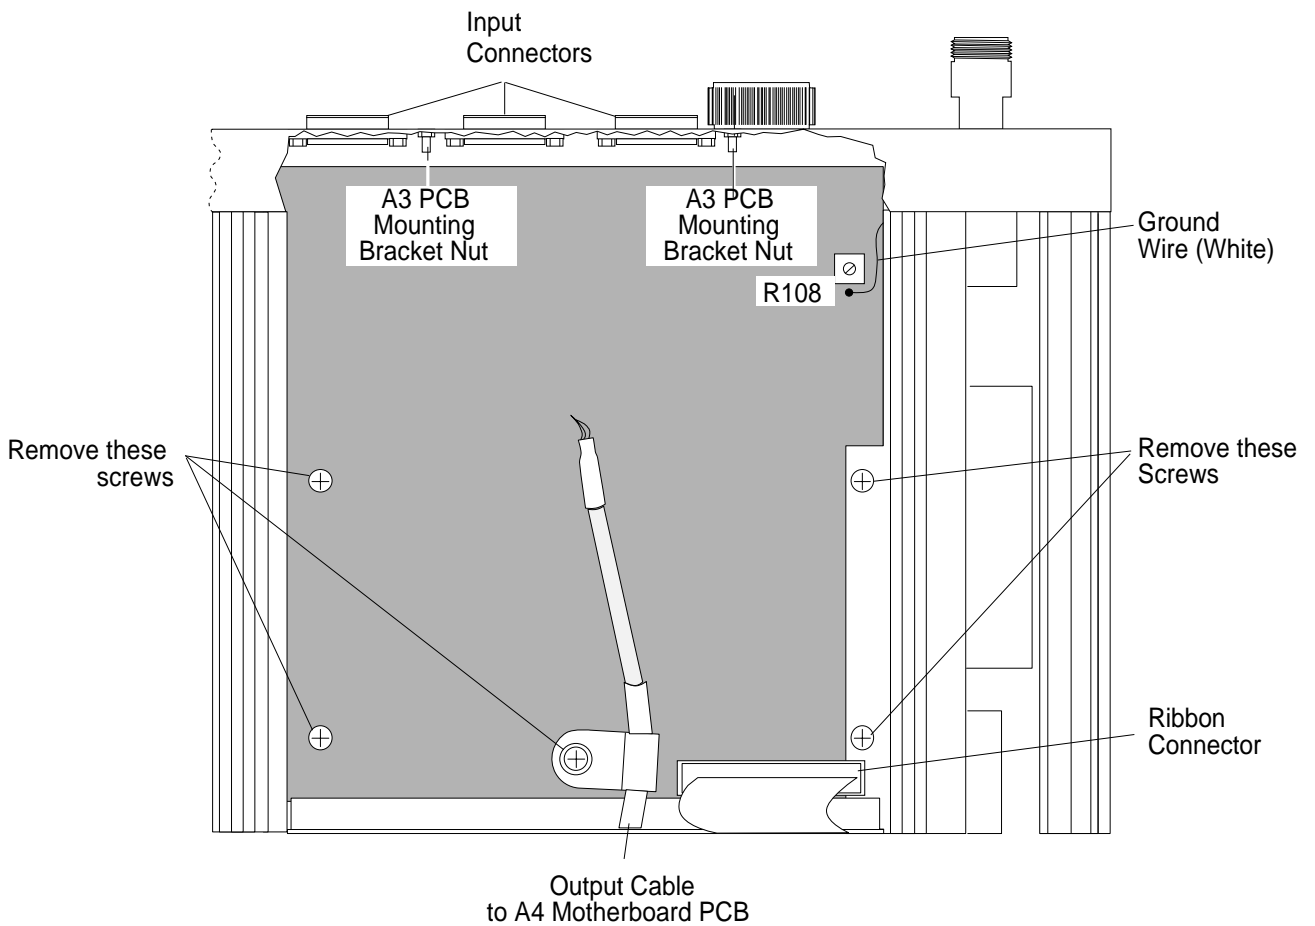

Figure 7-5. *Removing the A3 Signal Channel PCB and Front Panel Input Connectors*
- Step 3.*** Disconnect the white grounding wire (Figure 7-5), and dress it away from the PCB.